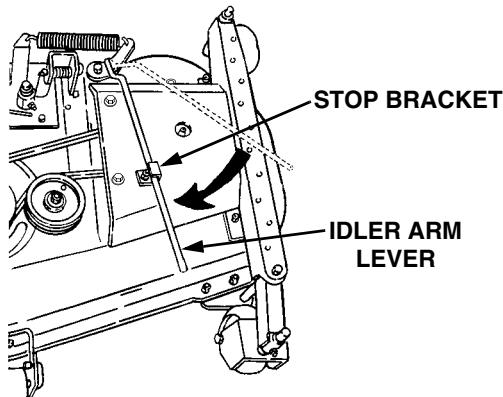

**Figure 41**
3. Lower the mower deck by moving the implement lift handle to its lowest setting. Disengage the deck idler arm lever from its stop bracket and release the spring tension by rotating the lever out and rearward (See Figure 41).